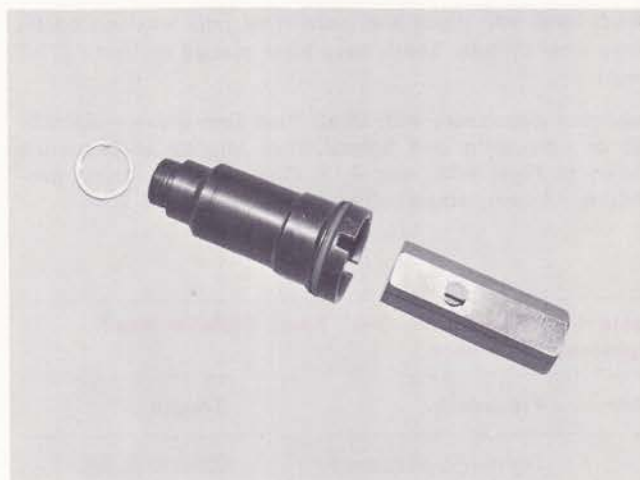

Fig. 4-12. Spark plug adapter with ST-890 Wrench
1. Using ST-890 Adapter Wrench, remove spark plug adapters from heads. Fig. 4-12. Remove and discard gaskets and "O" rings.